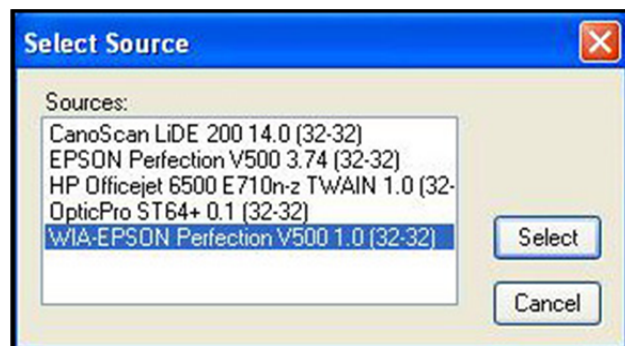

Figure 25. Selection of scanner model screen
- 3) If the scanner is properly installed, it should be displayed in the Select Source screen. Click on the correct scanner and click *SELECT* (**Figure 25**).